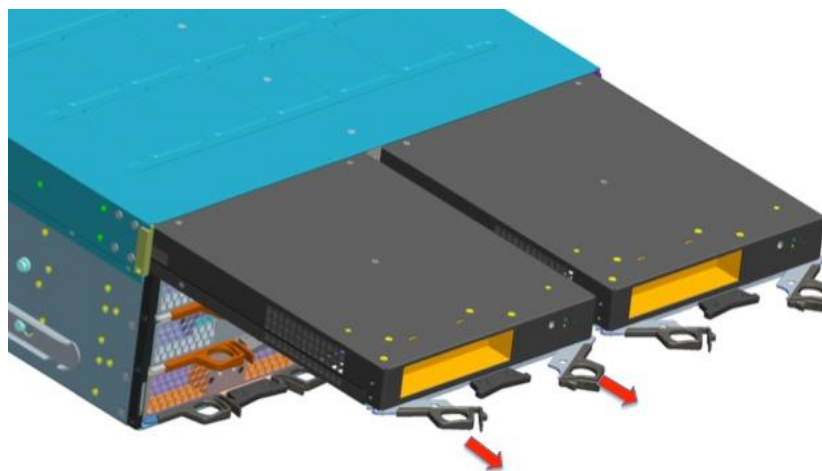

Figure 41. **Removing SBB Canisters**
3. Slide SBB canister out from chassis (Figure 41).